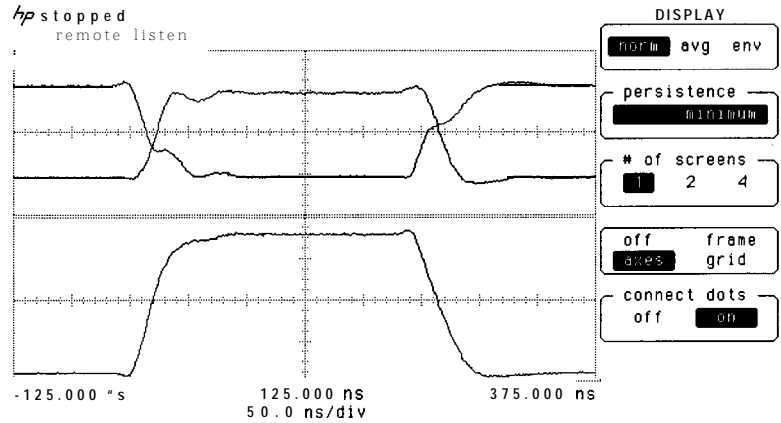

Figure 3-20. Composite X Deflection Waveform
16. Three waveforms should be displayed on the oscilloscope, as shown in Figure 3-20. The lower composite waveform represents the combined X deflection voltage applied to the CRT. Use the oscilloscope's front-panel knob to adjust waveform fl sensitivity for approximately 8 vertical divisions.